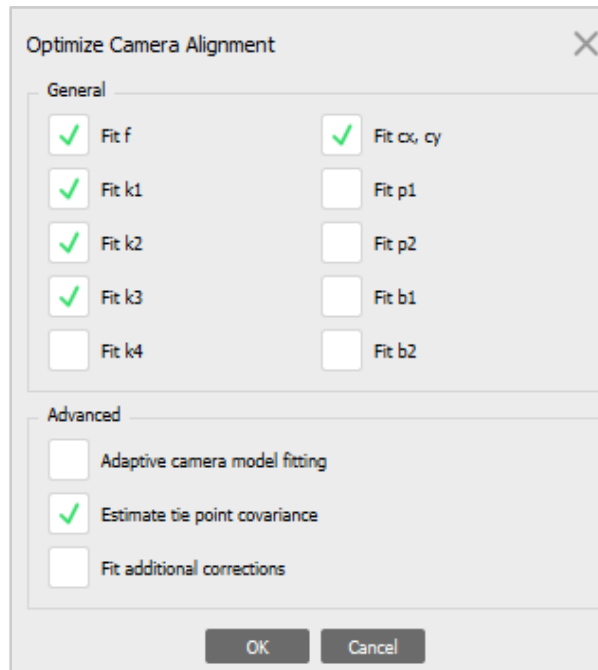

Figure 23. Optimize Camera Alignment window with settings for optimization as described in step 2.
2. Right-click on the `SPC & DPC - Optimized` chunk and select `Process` then `Optimize Cameras`. A new window will appear called `Optimize Camera Alignment`. Change the settings according to Figure 23 and click `OK`.